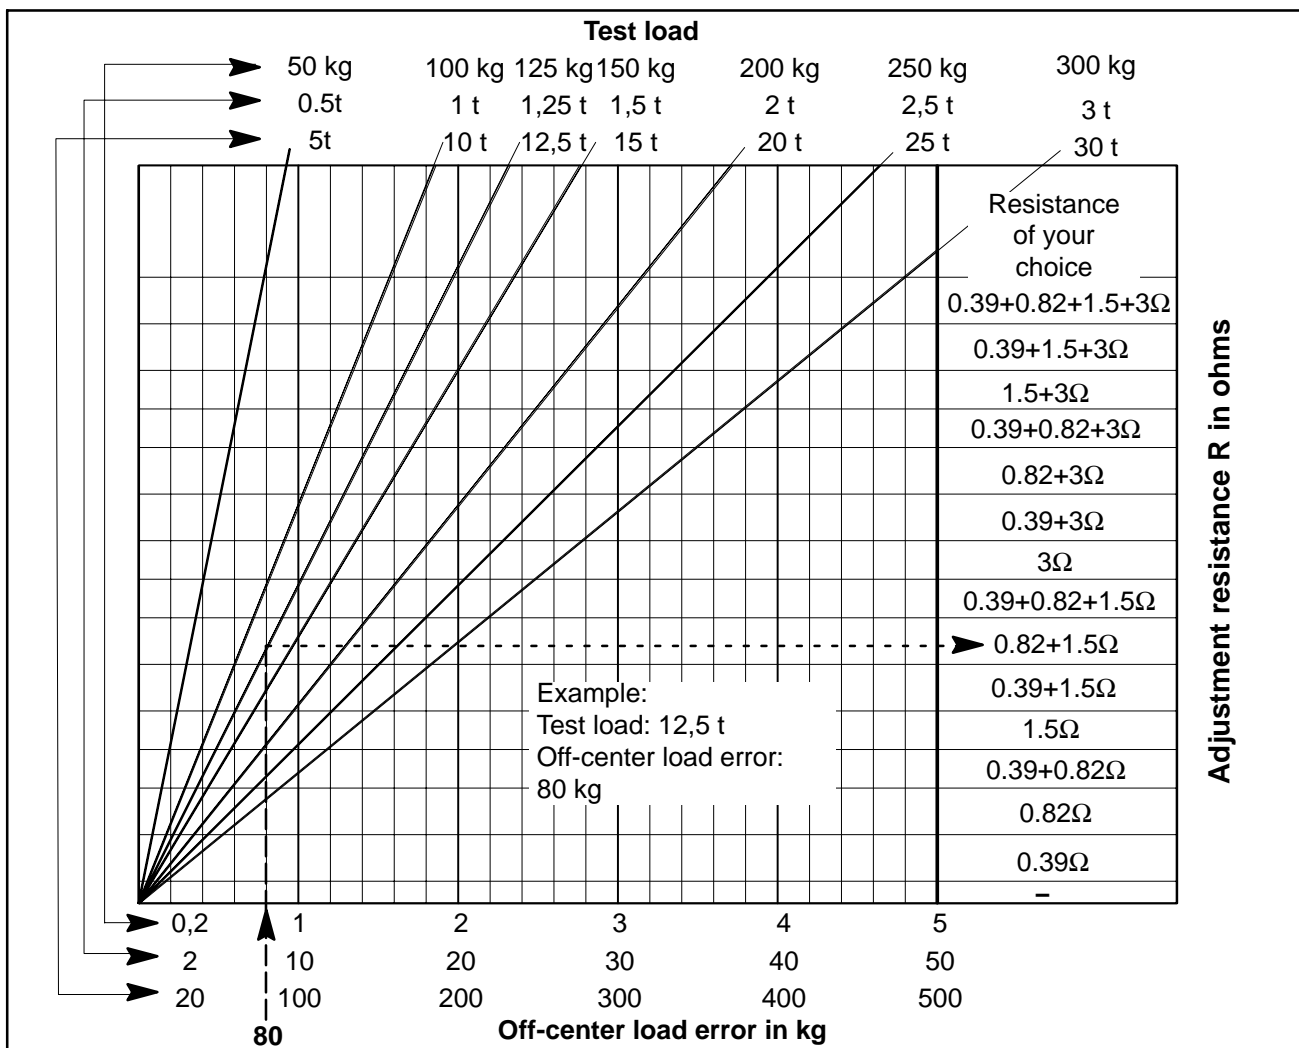

Fig. 7.2: Off-center load compensation for 350 Ω load cells
- The chart (Fig. 7.2) is graduated in 7 test load ranges. Select the test loads used (12.5 kg in the example) in the relevant line. Starting from the calculated off-center load error difference on the X-axis, look for the intersection with the test load and then, on the Y-axis, read off the resistance and the most suitable combination. The resistance values here apply for 350 ohm load cells (see the table in the lid of the VKIA405).